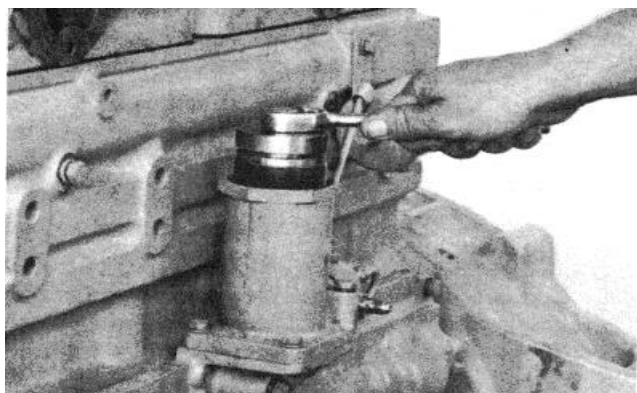

Fig. 14-33. Use The 3376021 Adjusting Tool To Rotate The Spring Retainer.
- b. Rotate the spring retainer to adjust the injection timing. Use Part No. 3376021 Retainer Adjusting Tool to rotate the spring retainer, Fig. 14-33. Rotate the retainer counterclockwise to advance the timing. Rotate the retainer clockwise to